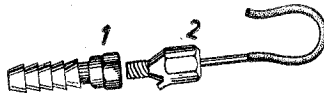

Fig. 39
- (3) Screw on the water valve (Fig. 39/1) with air extension (Fig. 39/2) and slip it on the hose for the liquid. Fill up the tyre with the prescribed amount of liquid.